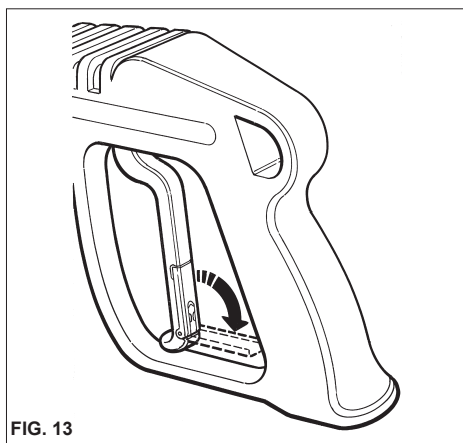

FIG. 13
- When the high pressure washer is not in use, close the safety catch on the hand-grip (fig.13).